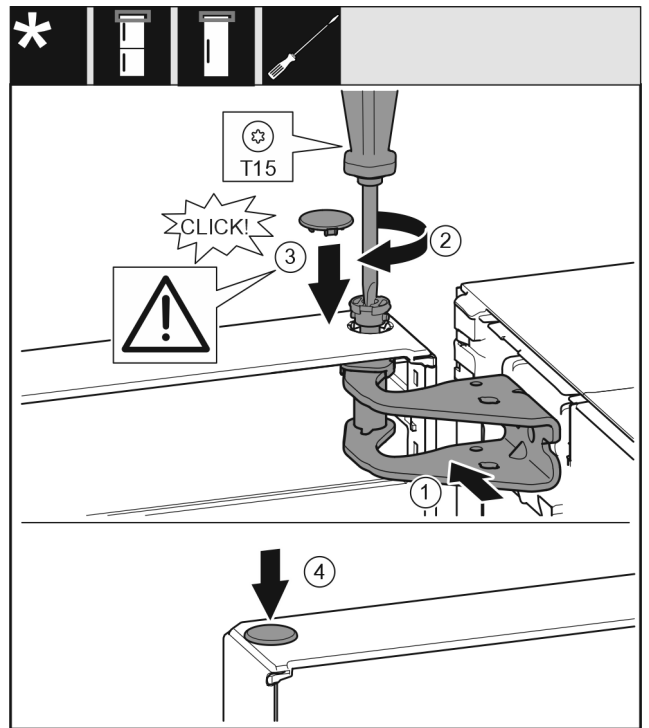

Fig. 45
- Align the top door with the opening in the swap bearing block Fig. 45 (1).
- Insert the bolt Fig. 45 (2) and use screwdriver to tighten it.
- Insert the cover Fig. 45 (3).
- Check that the cover Fig. 45 (3) is resting on the door.
- Insert the cover Fig. 45 (4).